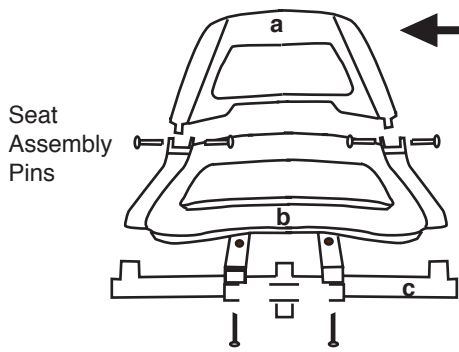

Fig. 1a
1. Assemble Seat Back to Seat Bottom using Seat Assembly Pins (see figure 1a).
2. Assemble Seat to Seat Support Frame Member using (4) Seat Screws. (See Figure 1a)